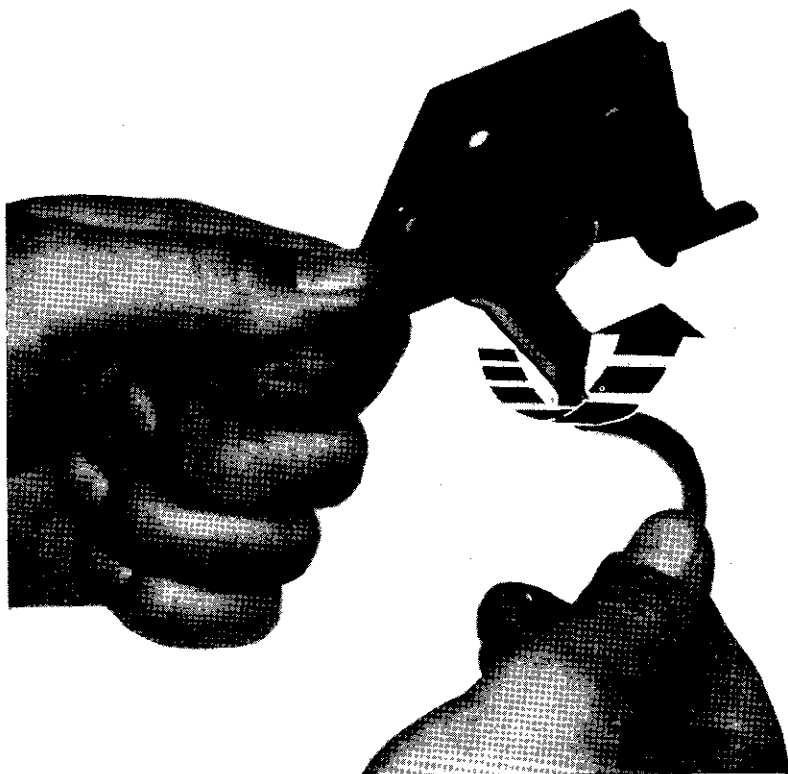

Figure 23. Removing the trigger guard.
e. Hold the rear of the trigger housing with the left hand as shown in figure 23. Grasp the trigger guard with your right hand and slide it to the rear until the hammer pin holes in the wings of the trigger guard are just forward of the safety stud hole. Cant the guard to the right, push it forward and up, and remove it from the trigger housing.